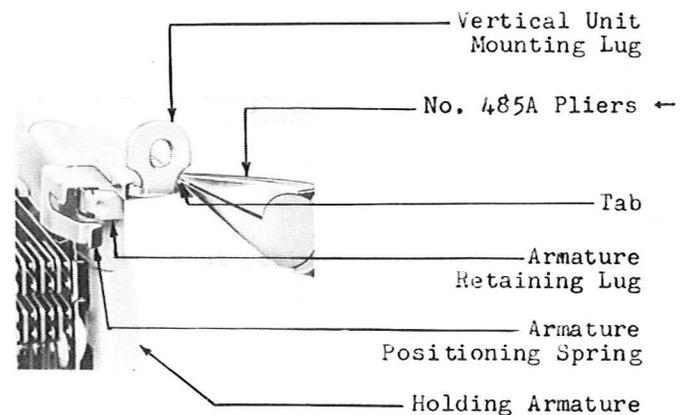
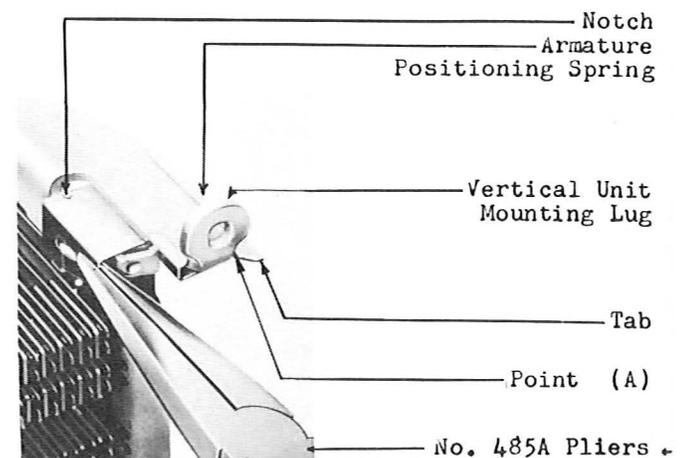

Fig. 8 - Method of Removing Armature Positioning Spring
Fig. 9 - Method of Mounting Armature Positioning Spring
3.21 Armature Positioning Spring: To remove the armature positioning spring, grasp the tab which is to the right of the vertical unit mounting lug with the No. 485A pliers as shown in Fig. 8. Then twist the tab slightly to the right to clear the vertical unit mounting lug and at the same time pull the spring forward until clear of the vertical unit. When removing the armature positioning spring from the vertical unit mounted behind the selecting bar guard, exercise care not to damage the spring by snagging it on the guard.
3.22 To mount the new armature positioning spring grasp it with the No. 485A ← pliers as shown in Fig. 9 and push it straight onto the vertical unit until the notched portion of the spring engages the frame of the vertical unit and the tab locks behind the vertical unit mounting lug. Then while still grasping the spring with the pliers check whether it is locked on the vertical unit by attempting to pull the spring forward. If properly locked the spring will stay on the vertical unit. In some cases the spring may bind against the vertical unit mounting lug at the point (A), Fig. 9. When this occurs do not attempt to force the spring into place but shift the pliers to the tab as shown in Fig. 8 and press the tab inward and twist it slightly to the left. Then check as above to determine whether the spring is properly locked on the vertical unit.